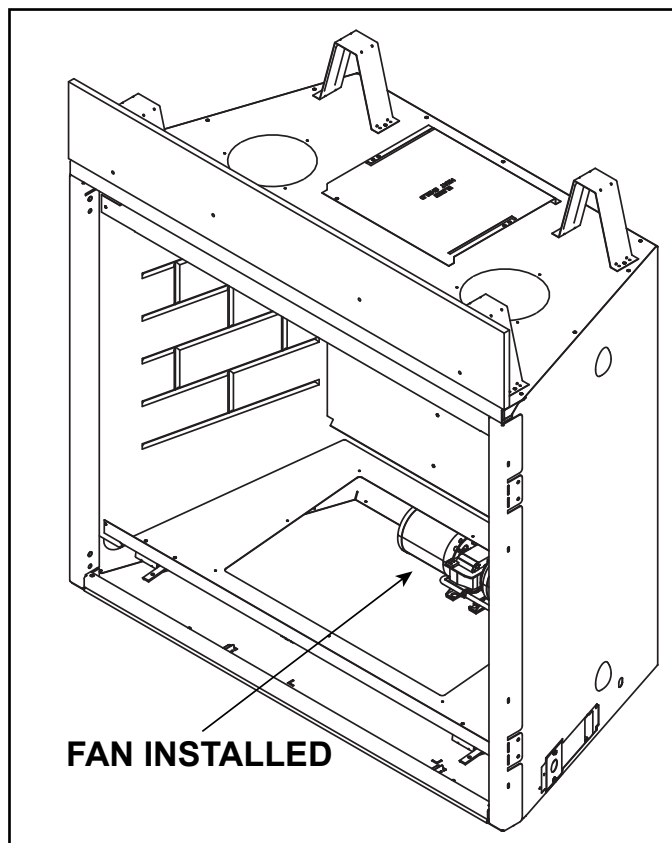

Figure 8.5 Fan Installed in Valve Plate Cavity
- Service can be performed through the valve plate cavity. See Figure 8.5.